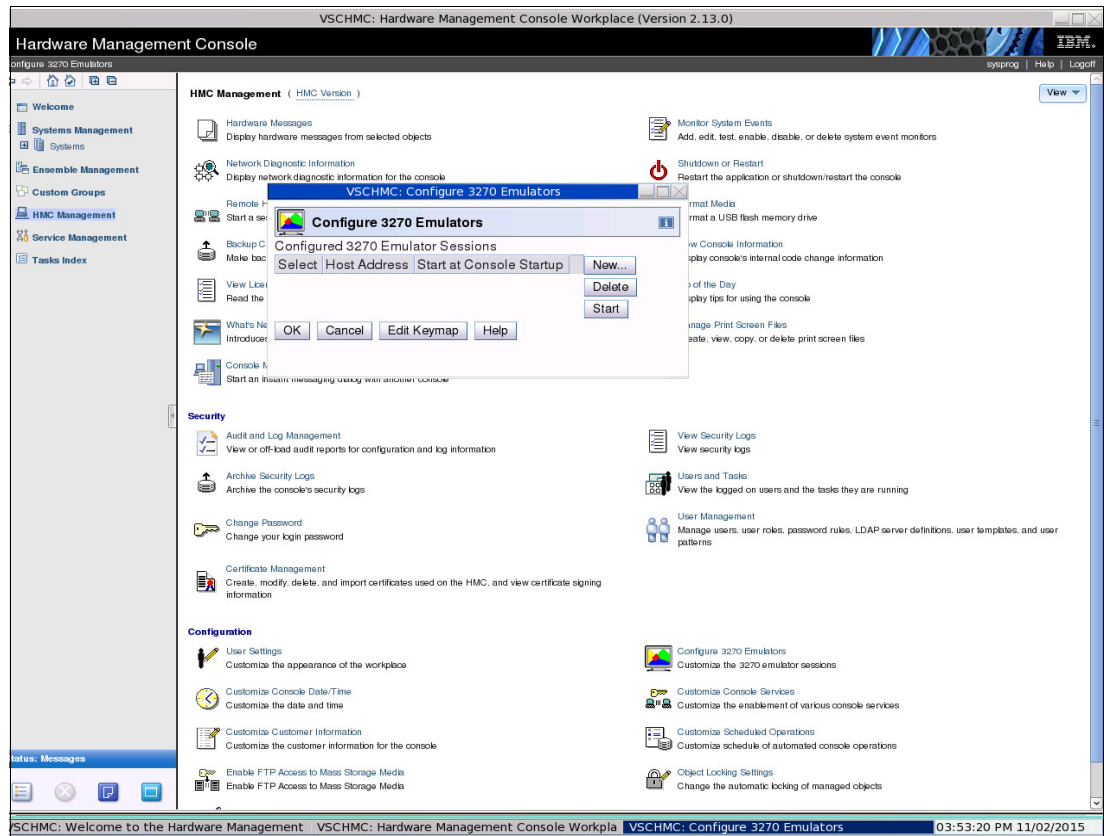

Figure 7-27 New Session panel
3. When the Emulation Configuration panel opens, we select **NEW**, as shown in Figure 7-27.